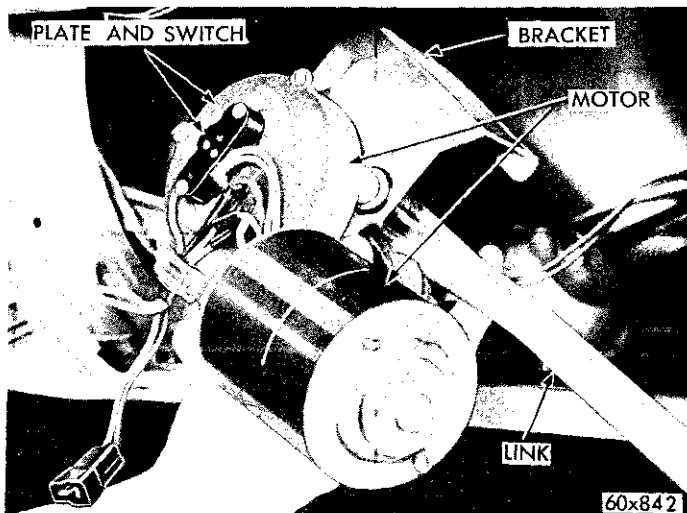

Fig. 46—Removing Windshield Wiper Motor and Link Assembly (Typical)
(1) Remove the glove compartment door.
(2) Remove the glove compartment.
(3) Remove the bolts attaching the wiper motor bracket to the cowl panel to the instrument panel brace.
(4) Disconnect the wires at the wiper motor.
(5) Disconnect the links at the pivot cranks. Clips are removed by lifting the top tab and sliding it sideways out of engagement with the groove in the pivot crank pin.
(6) Remove the spacing washer and remove the link from the pivot crank.
(7) Slide the complete wiper with the links far enough towards the left so that the right hand link will clear the glove compartment opening in the instrument panel and remove assembly, as shown in Figure 46. Use care so as not to bend the links.